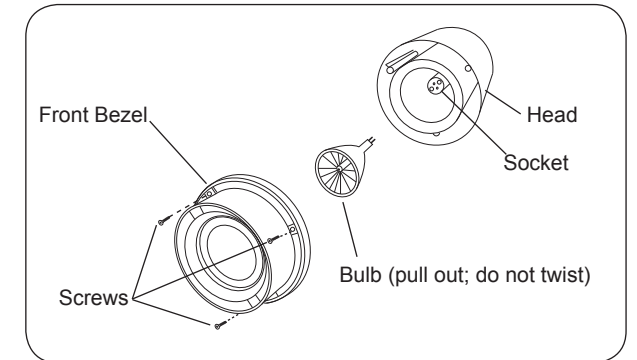

Figure 2. Bulb Replacement - Halogen
1. Remove three screws from front bezel (Figure 2).